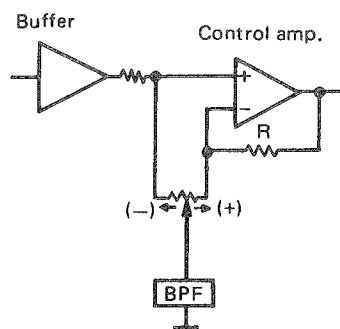
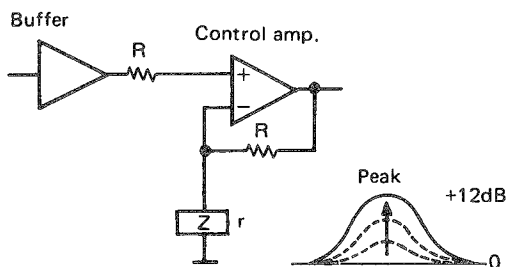
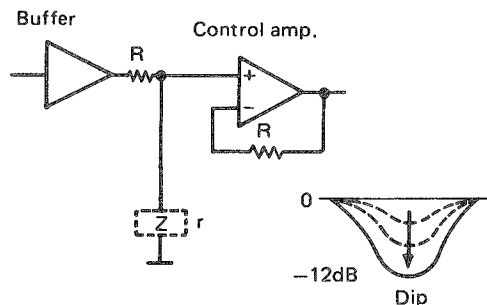

Fig. 2
Fig. 3
Fig. 4
The equalizer circuit of this unit is shown in Fig. 2. When the control volume (VR) is turned in the direction of $\rightarrow (+)$, NF level lowers with the connection shown in Fig. 3, causing the gain of operation amplifier to increase, then the "peak" appears. Contrarily, when VR is turned in the direction of $\leftarrow (-)$, the input impedance of operation amplifier becomes lowered with the connection shown in Fig. 4. Then the frequency level is "dip".